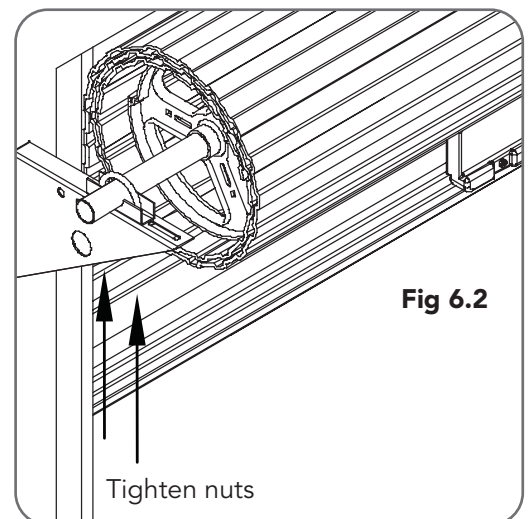

Fig 6.2
- At the end opposite to where the opener will be fitted, check that each nut securing the door axle, is tightened (to a torque setting of 40Nm) to the bracket. (**Fig. 6.2**)